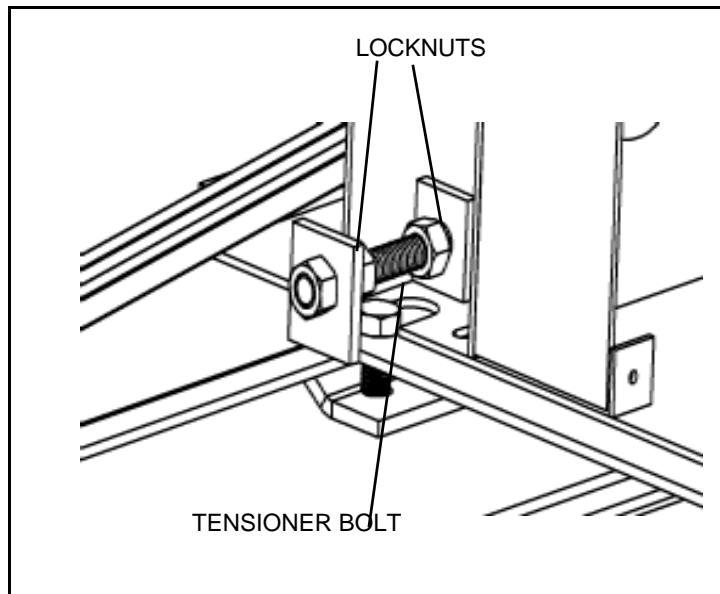

Figure 3.22 Jackshaft Tensioner Bolt
9. Turn tensioner bolt to tighten belts. Lock with nut on bolt (Figure 3.22).